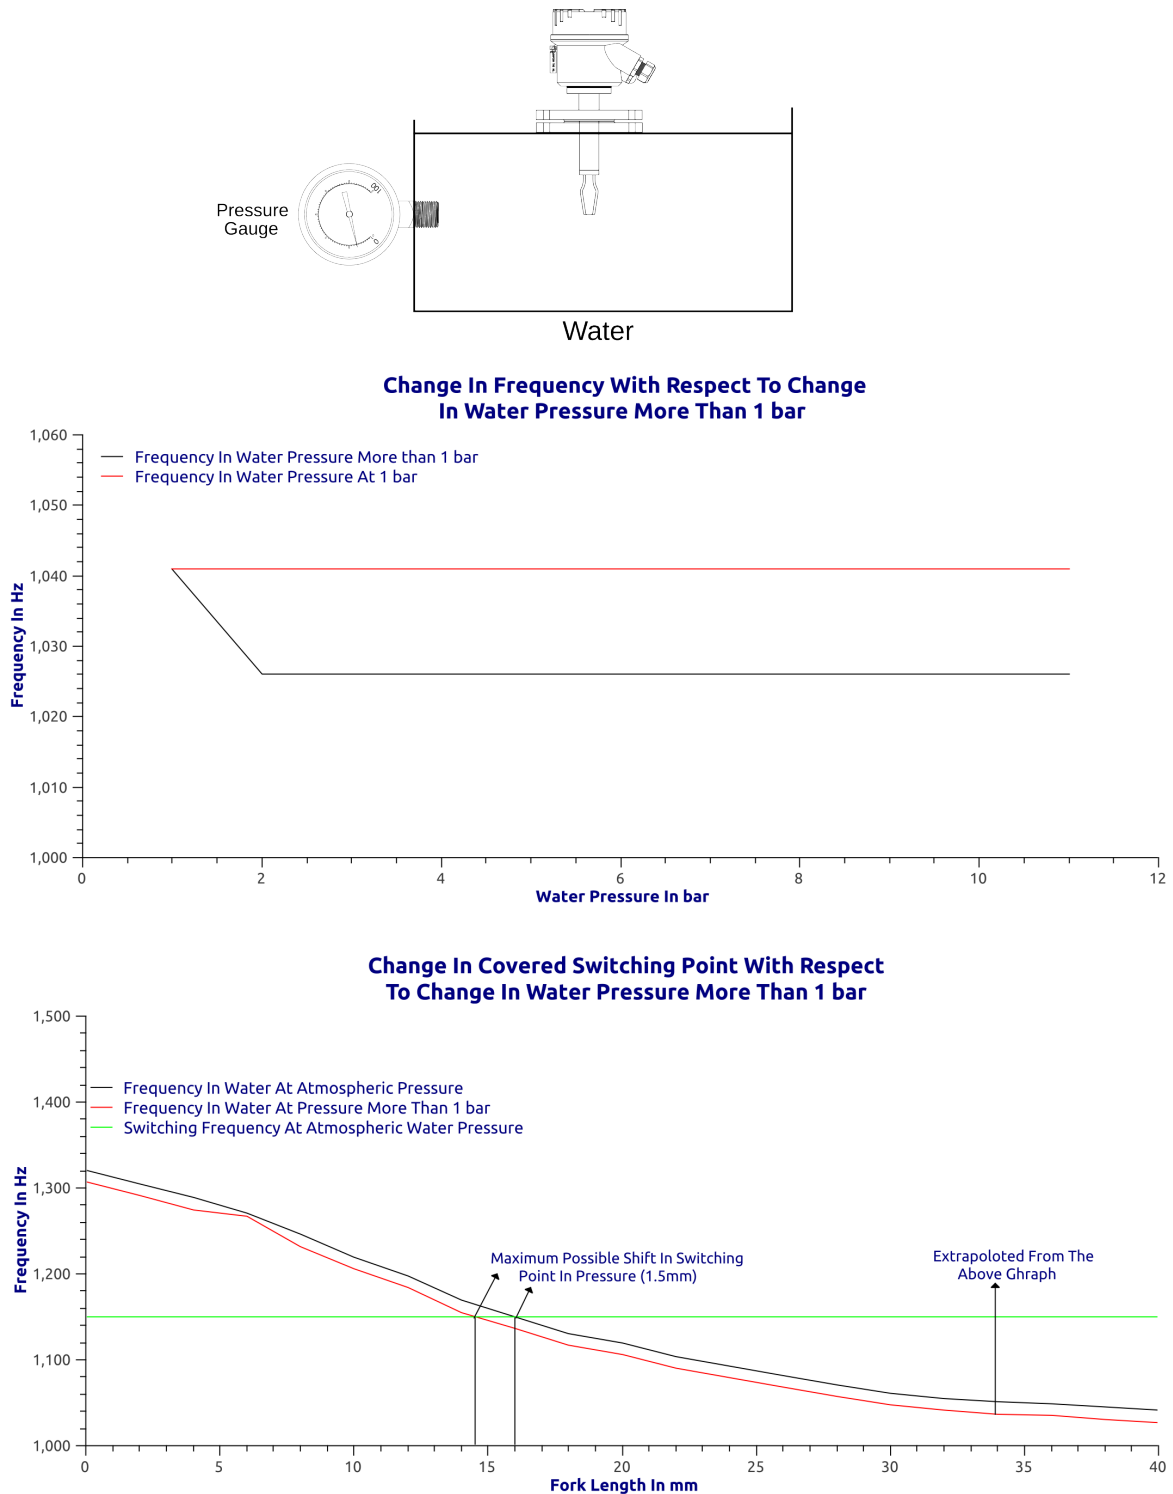

Figure 10: Influence of Process Pressure on Switching Point
1. **Process Pressure** - It has no significant effect on the switching point of the device as can be observed from the Figure 10.